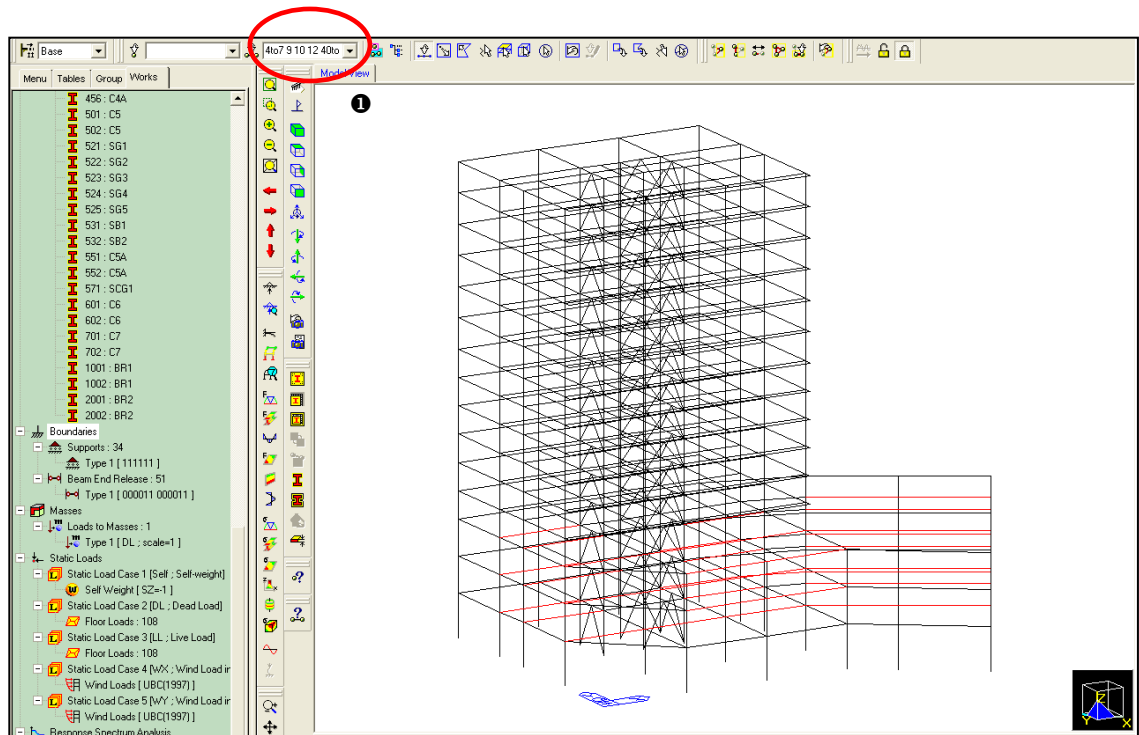

Figure 1.76 Select elements to modify the sections
The right side of  **Select Identity-Element** (Refer to ❶ of Figure 1.76)